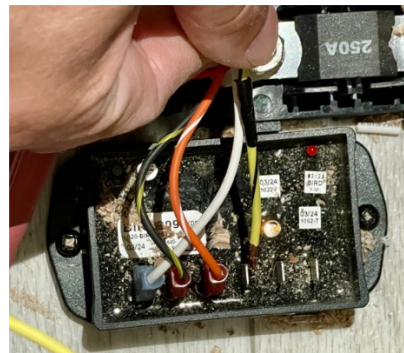

Fig. 5
- Locate yellow/black wire near the buss bar/isolator solenoid (battery compartment or dinette, as noted in Magnum explanation), connect a length of 16-gauge wire, long enough (8-15 ft) to be routed to the BIRD-909 module location (see attached location addendum). Figure 5